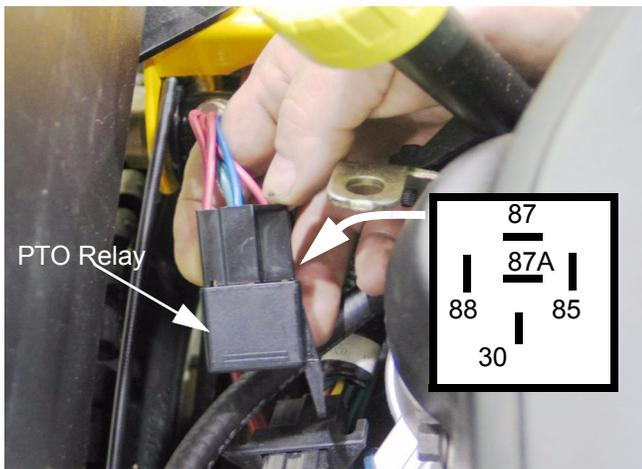

Figure 32.1
32.1. The operation of the PTO clutch is governed by the PTO relay. See Figure 32.1.